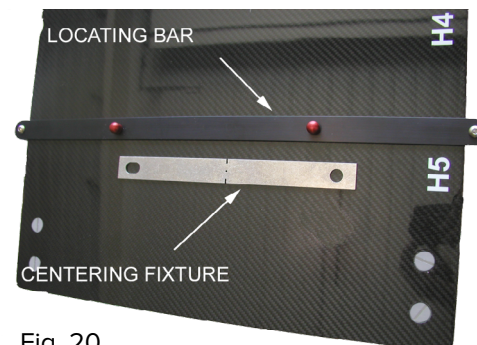

Fig. 20
1. Install the Locating Bar on the CT Overlay and then set the Centering Fixture Bar on the Locating Bar at the head end of the CT Overlay (Fig. 20).